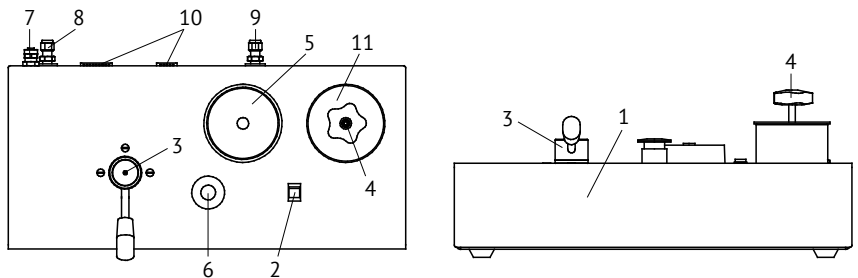

Fig. 2. External view of the control cabinet:
4.2 The external view of the control cabinet is given in fig. 2.
4.7 Control cabinet consists of body 1 (Fig.2) made of steel sheet and covered with powder enamel. On the panel there are: system start button 2, operation modes selection lever 3, which permits to switch the system to prepumping mode and pressure regulation mode, also there are: bowl 11 for process liquid and pressure release valve 4. Electric-contact manometer 5 is intended to limit the system pressure at the level of 620...650 bar in case of its erroneous increase. Also it is possible to set approximately the maximum pressure within the limits of 0...620 bar. Emergency stop button 6 serves to switch the system off in case of emergency. In the control cabinet there are: electronic control plate, output valve, ball valve with position sensors, and the control cabinet is designed to control the entire system and change the mode of its operation.
4.10 Mode of preliminary pressure generation (is determined by the position of handle 3 (Fig. 2) of the control cabinet). This mode is used to fill the attached manometers or other hydraulic devices with process liquid, by compressing the remaining air in them. In case of the joystick deviation the pump rod begins its movement forward, with speed proportional to the deviation value, and the process liquid is ejected through the output valve into the system and connected manometers or other devices. When the rod reaches its final position, the pressure increase at the output of the system stops and automatically returns to initial position (is not necessary to release the joystick handle) at maximum speed (at this moment process liquid from the bowl 11 (Fig. 2) is absorbed into the cavity of the pump through the inlet valve). When the rod reaches its initial position, it automatically starts to move forward renewing the pressure boost cycle at a speed determined by the position of the joystick. Then the process repeats cyclically. The number of cycles depends on the internal volume of connected manometers or other equipment. When the pressure in the system approaches to the required, it is required to reduce the speed by increasing the deflection angle of the joystick handle. Then stop completely the pressure increase by releasing the joystick, after which the rod automatically returns to the initial position. In this mode, the joystick is only pushing off, that is to increase the pressure.